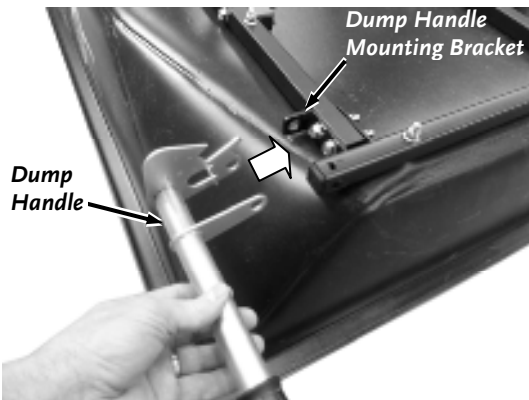

Figure 7
1. Position the Dump Handle at the right rear corner of the Bed where the Mounting Bracket is located (Figure 7).